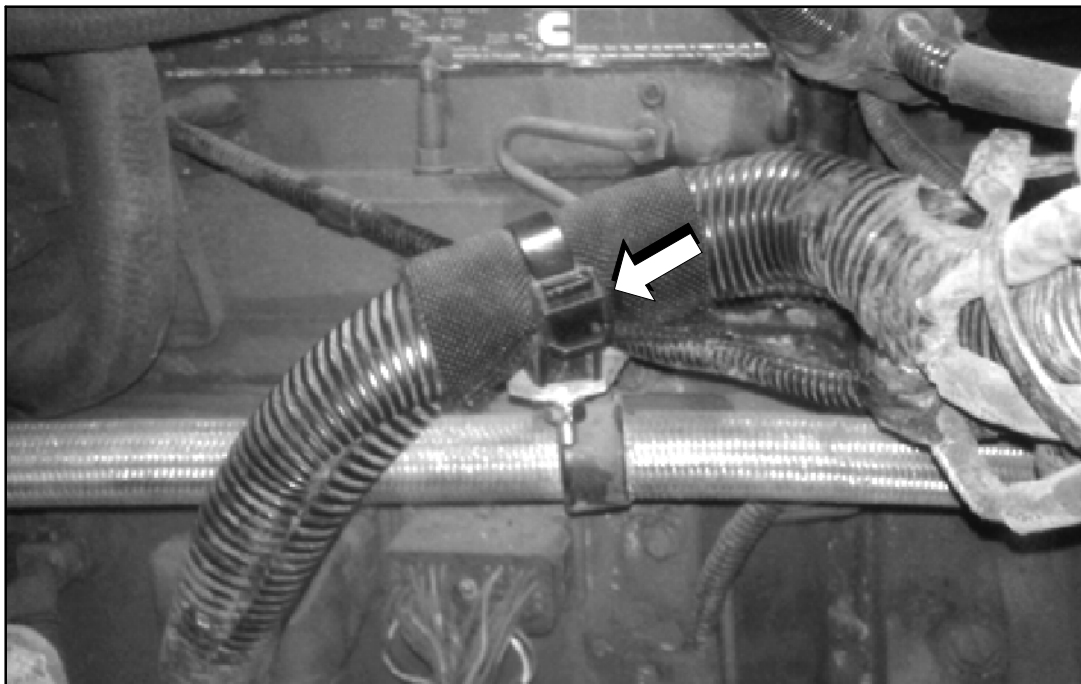

Figure 2.
- 6. Mount the tie base, p/n 07-08-4552, using hardware p/n's 19-1-825, 19-3-228, 19-02-6063 and 19-02-6035 (refer to Figure 2).
- 7. Secure the harness using p/n's 07-08-4535 and 07-08-4527 (refer to Figure 2).
- 8. Secure the harness throughout its routing using p/n's 07-08-4535 and 07-08-4527 (refer to Figure 2).